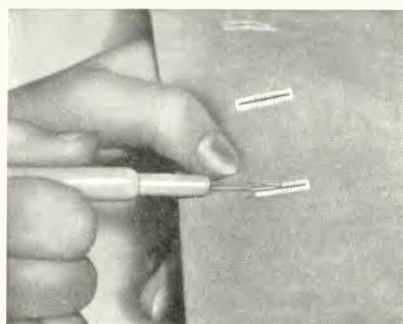

Fig. 27.
10. Carefully cut the material between the two rows of stitches with the buttonhole cutter (S 15399, page 4) which is included among the attachments (Fig. 27).